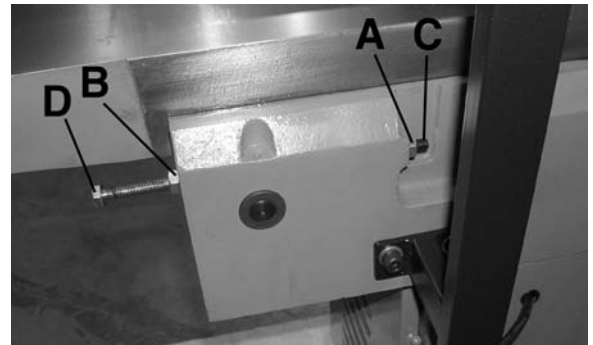

FIGURE 13
Positive stops are provided on the jointer to limit the height and depth of the infeed table. To adjust the stops, loosen two locknuts (A) and (B) Fig. 13, and turn the two adjustment bolts (C) and (D) as necessary. Retighten locknuts (A) and (B). We recommend that the height of the infeed table be adjusted so the table at its highest point will be 1/2mm below the highest point of the cutter inserts. This is an important feature of your jointer which enables you to rapidly position the infeed table for a finish or final cut.